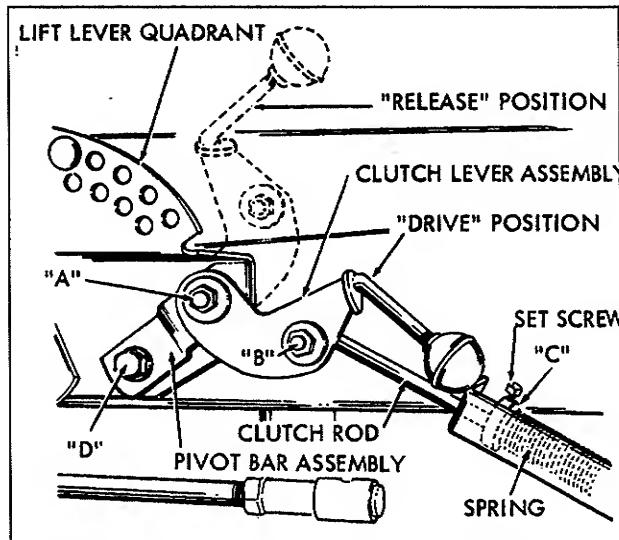

Figure 19 (Typical Some models use different style lever.)
4. Remove hex cap screw "D" from frame of tractor and mount bracket in place on lift lever quadrant. See Figure 19. Position the pivot bar assembly flush against bottom of lift quadrant and reinstall hex cap screw and tighten securely. Check alignment of drive pulley on bevel gear shaft, driven pulley of power take-off, and idler pulley, and adjust driving pulley if necessary.
Operation of the Power Take -Off is controlled by movement of the Clutch Lever Assembly. See Figure 19. When the Clutch Lever is in the forward raised position, the Clutch Rod releases the tension holding the Idler Pulley against the Drive Belt, and power will not be transmitted to the driven pulley of the Power Take-Off Assembly. When the Clutch Lever is in the back, depressed position, the Clutch Rod applies tension to the Idler Pulley and as the Idler Pulley takes up the slack in the Drive Belt, power is transmitted from the Drive Pulley on Bevel Gear Box Shaft to the driven pulley of the Power Take-Off. Figure 19 shows Clutch Lever in Drive position.
At points "A" and "B" of Figure 19, check tightness of Hex. Nut to be sure that Clutch Lever Assembly and Clutch Rod are free to pivot without binding.
Place Clutch Lever in 'Drive" position and observe clearance between collar "C" (Figure 19) and end of bracket. When implement is attached to tractor, this clearance should normally be approximately 3/4"; at this setting the Idler Pulley should be snugly against the Drive Belt. If additional tension is required, release Clutch Lever and loosen Set Screw on Collar and Slide Collar farther back on Clutch Rod. Retighten